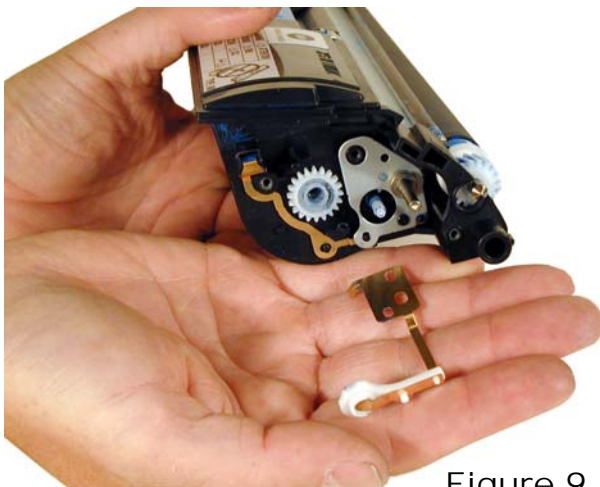

Figure 9
6) Remove the contact/bushing assembly. See **Fig. 9**